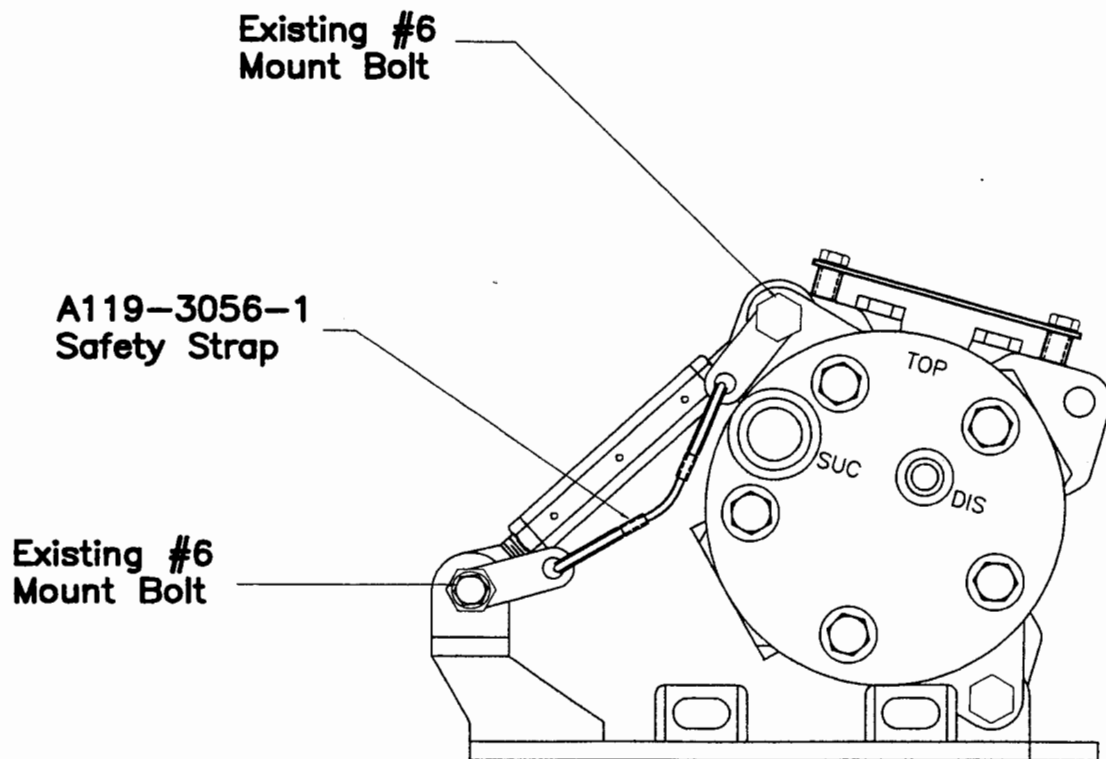

Figure 3
1. Remove Nut from bolt on upper end of belt tension link as shown in Fig 3.
4. Install lower tab end under bolt as shown in figure 3.